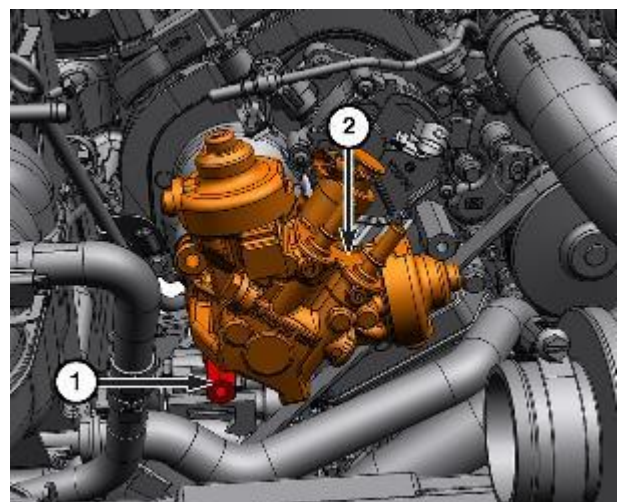

Figure 14 – Lower HPFP Bolt
23. Remove the lower bolt (1) from the HPFP and remove it from the vehicle (Figure 14).
32. Install the HPFP (2) and hand tighten the bolt (1) (Figure 14).